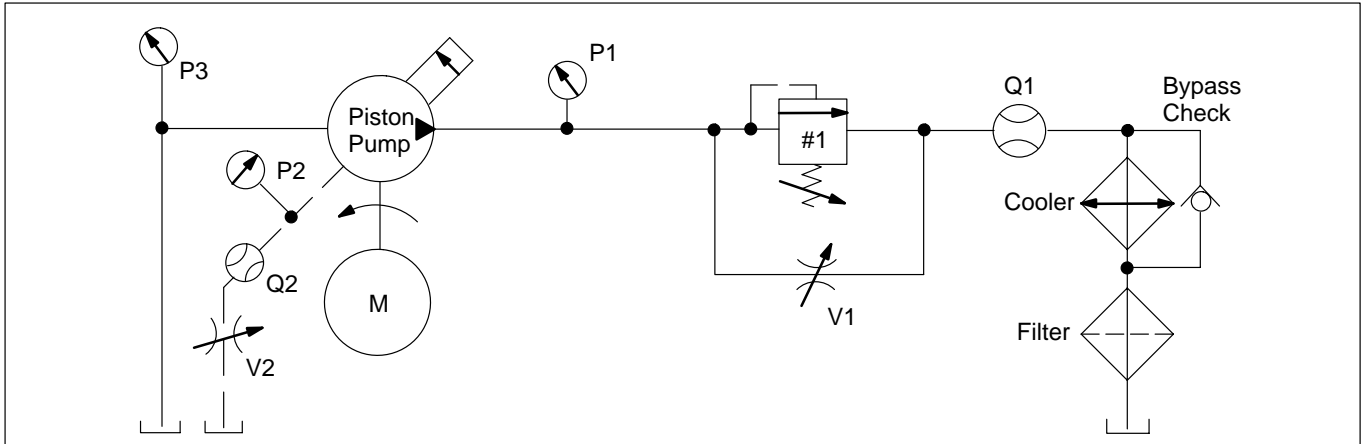
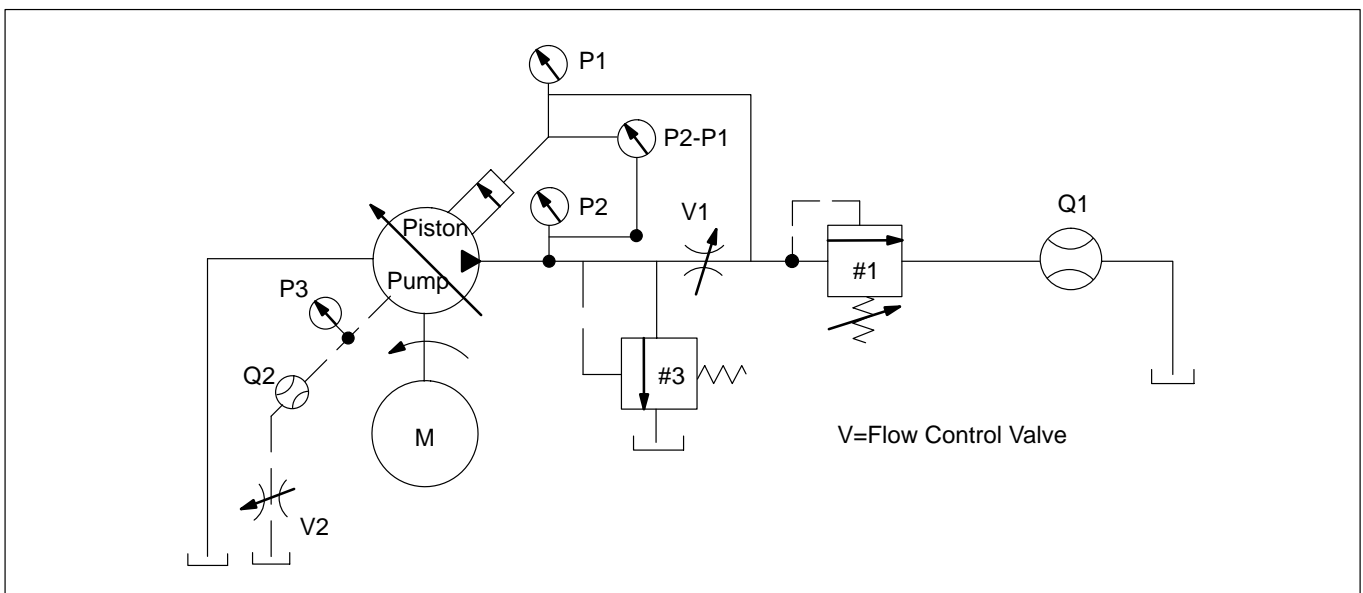

Figure 23. Circuit Diagram for “C” and “CG” Control.
Figure 24. Circuit Diagram for “CV”, “CVP”, and “CVPC”.
Install unit as shown in test circuit diagram with case drain up. Use the correct circuit diagram for the unit: Figure 23–PVE 19/21 (G)–*–**–C/CG–1*. Figure 24–PVE 19/21 (G)–*–**–CV/CVP/CVPC units.
1. Adjust load valve one (1) and globe valve one (V1), Figure 23, for exactly 100 Psig as read at gauge P1. The unit must meet the following requirements at full stroke, and 1200 RPM. See Table 4. Record the flows obtained.
2. Close globe valve one (V1) and readjust load valve one (1) to system pressure shown in Table 5. Read Psig at gauge P1.
4. Open globe valve one (V1) and load valve (1).
5. Back off compensator adjustment screw until approximately 0.060 inches of threads are exposed. Close load valve one (1) and globe valve one (V1). The pressure as read at gauge P1 must not exceed 250 Psig.
2. Refer to Figure 23 and adjust load valve (1) and globe valve (1) to 100 PSI system pressure at P1. Observe maximum pump flow and maximum case leakage requirement noted in Table 4.
Refer to Figure 24 for location of circuit components.